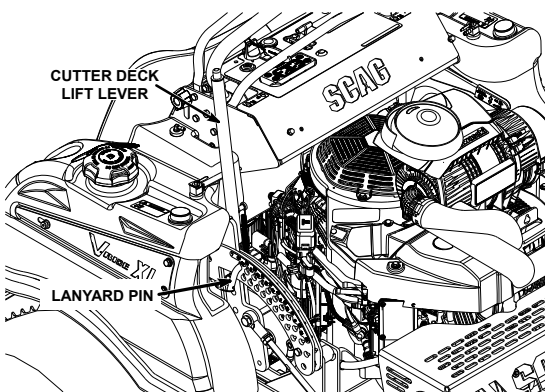

Figure 4-6. Adjusting Cutting Height
2. Pull the cutter deck lift lever all the way backward until it locks in place. See Figure 4-6.
3. Insert the lanyard pin into the cutting height index at the desired cutting height. Pull backward on the cutter deck lift lever, push and hold the lock button. See Figure 4-6. Slowly release the cutter deck lift lever. A deck height decal is located on the cutting height index as an aid in adjusting the deck to the desired height.